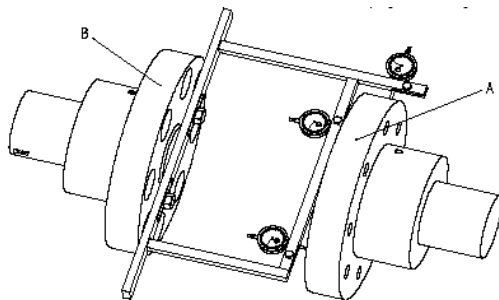

Figure 07 – Connecting coupling alignment with spacer (example)
- 5.4.6 Perform the alignment with dial gauges in accordance with the manufacturer's documentation. The figures 07 and 08 are examples of alignment with dial gauges: